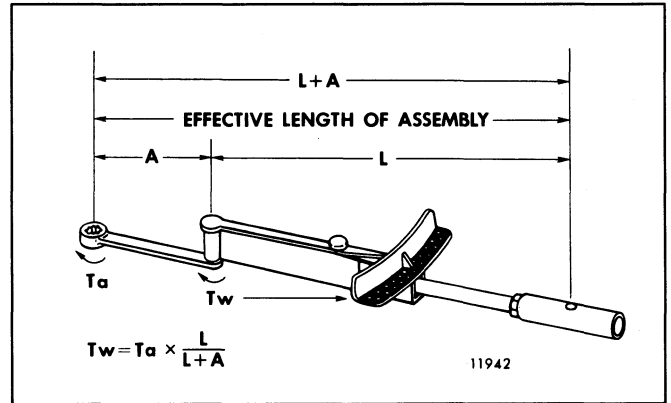

Fig. 9 - Calculating Torque with an Adaptor
EXAMPLE - If the effective length of the wrench (L) is 22" and the adaptor (A) is 3" long, you should have a reading of 66 lb—ft (89 N#m) on the wrench to have the bolt tightened to 75 lb—ft (102 N#m) torque (Fig. 9):